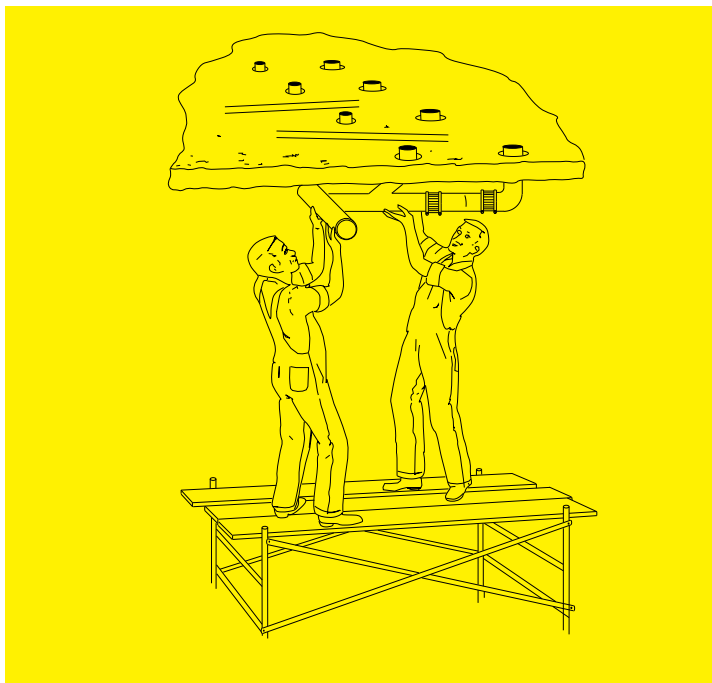

Fig. 1
2. Since all the roughing is done on the floor and not in the ceiling below, no scaffolding, ladders or similar supports are required (Fig. 1).